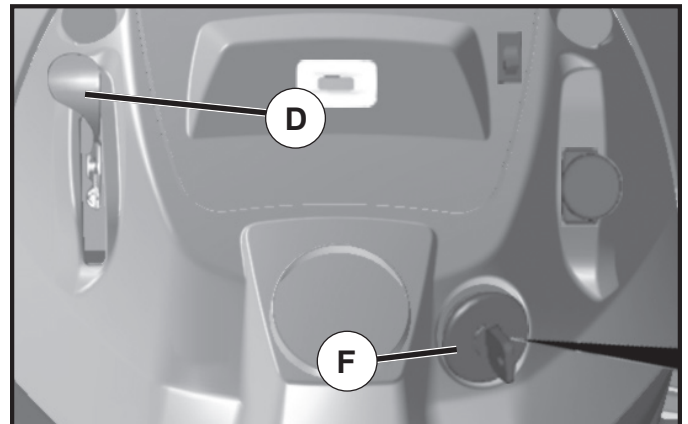

Fig. 20
TO USE THROTTLE CONTROL (D) (See Fig. 20)